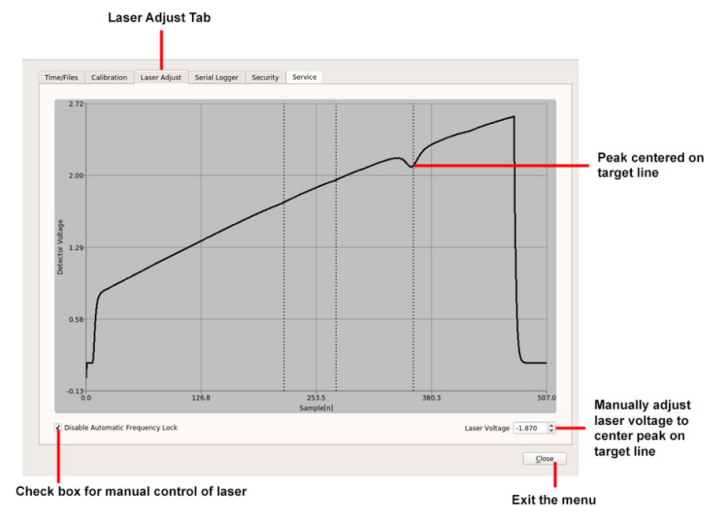

Figure 36 Laser Voltage Adjust
Click the **Laser Adjust** tab to access the *Laser Adjust* screen. Use the *Laser Adjust* screen to manually adjust the laser's wavelength, to compensate for any cumulative drift. (Figure 36)
- 2 Select the **Laser Adjust** tab at the top of the screen. (Figure 36)
Figure 36 shows the laser voltage adjusted so that the absorption peak is centered on the target line.